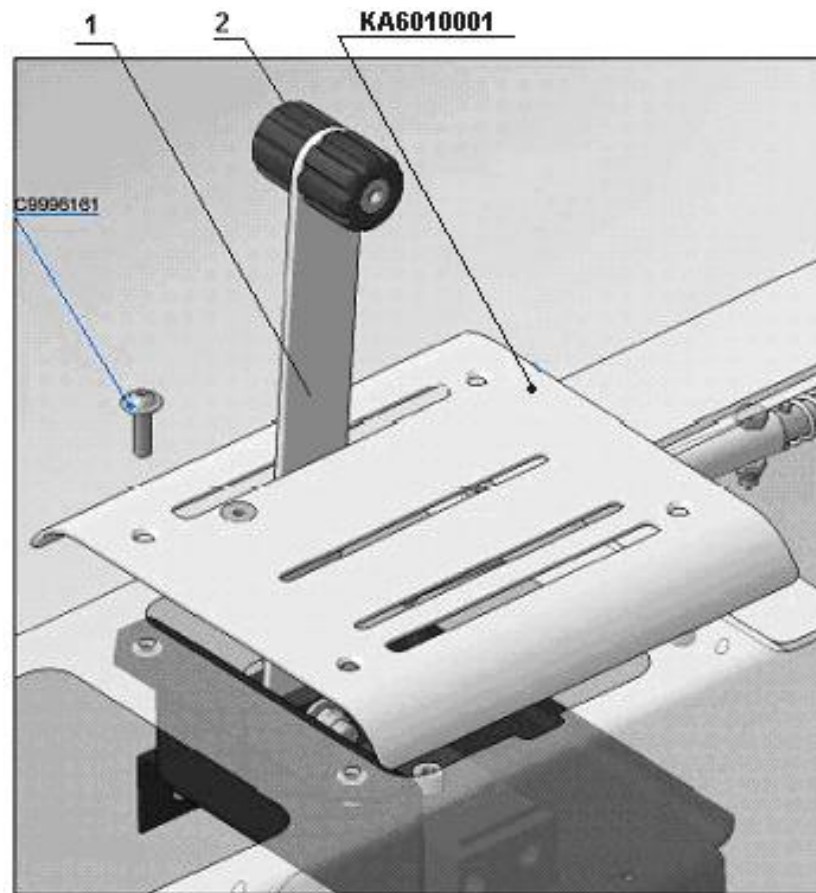
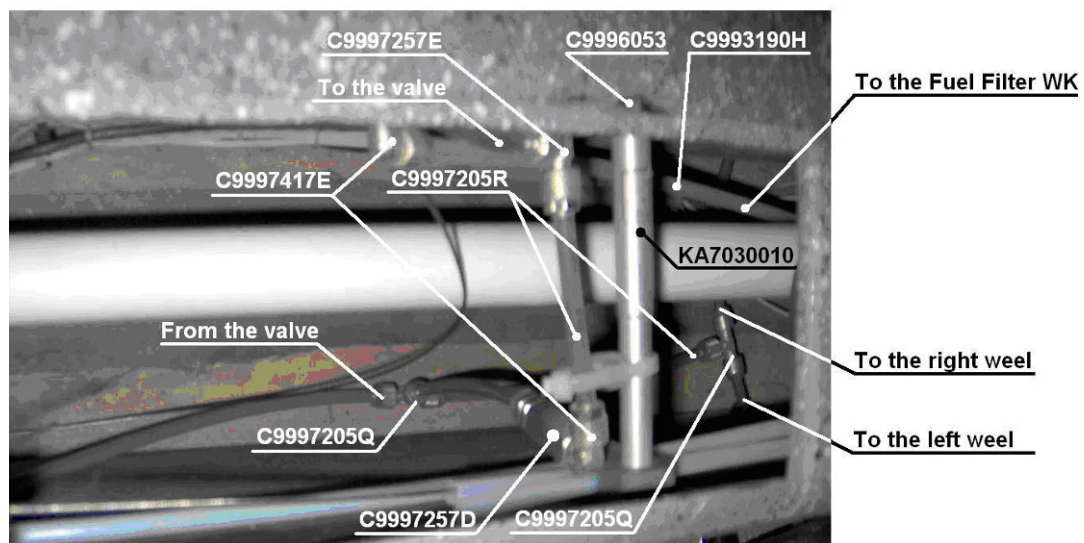

Fig. 2
Fig. 4
Check the brake control handle (item 1, Fig. 2) for play (up to $1 \frac{3}{16}$ " / 3cm) prior to using brake, before flight.
Remove the access panel KA6010001 (Access Panel) for inspection. For that remove the knobs (item 2, Fig. 2) using a hex-nut wrench 4 from the levers (items 1, Fig. 2) and unscrew the four screws C9996161 (Screw ISO 7380 M5x12).
Check the control lever (items 1, Fig. 2, Fig. 3), brake cylinder KA7030100 (Brake cylinder), and parking brake C9997419A (Fuel valve K-MI-561-1/8-22-II-MSV) (Fig. 2, Fig. 3) for operating.
Brake system controls connections are shown at Fig. 4.
Note that while installing the brake system lines the tee fitting C9997205Q - that distributes fluid between the left and right wheels must be shifted towards the left wall of the tunnel in order to ensure free access to the check valve C9997257D (Check valve L-RV6-11-1/8-MSv), Fig. 4.
Operation of the brake system is based on functioning of KA7030100 (Brake cylinder) (item 3, Fig. 3, Fig. 4), C9997419A (Fuel valve K-MI-561-1/8-22-II-MSV) (Fig. 2, Fig. 3) and C9997257D (Check valve L-RV6-11-1/8-MSv) (Fig. 4). If concerns raised, do the following.
1. For the check valve C9997257D (Check valve L-RV6-11-1/8-MSv), Fig. 4, carry out operations of the chapter IV and check the system.
2. For the parking brake C9997419A (Fuel valve K-MI-561-1/8-22-II-MSV), Fig. 2 and Fig. 3) carry out operations of the chapter IV and check the system.
3. For the brake cylinder KA7030100 (Brake cylinder) (item 3, Fig. 3 and Fig. 4) carry out operations of the chapter IV and check the system.
Make sure the brake control handle (item 1, Fig. 2 and Fig. 3) is in most forward position.
Make sure the aircraft is not set on parking brake, i.e. the valve C9997419A (Fuel valve K-MI-561-1/8-22-II-MSV) (Fig. 2 and Fig. 3) is open and the handle of the valve is aligned to aircraft longitudinal axle.
3. Fill the lines with brake fluid so that it goes further 4" / 10cm from the tee fitting C9997205Q (Fig.4), that connects the lines from the right and left wheels, towards the brake cylinder KA7030100 Brake cylinder (item 3, Fig. 3 and Fig. 4).